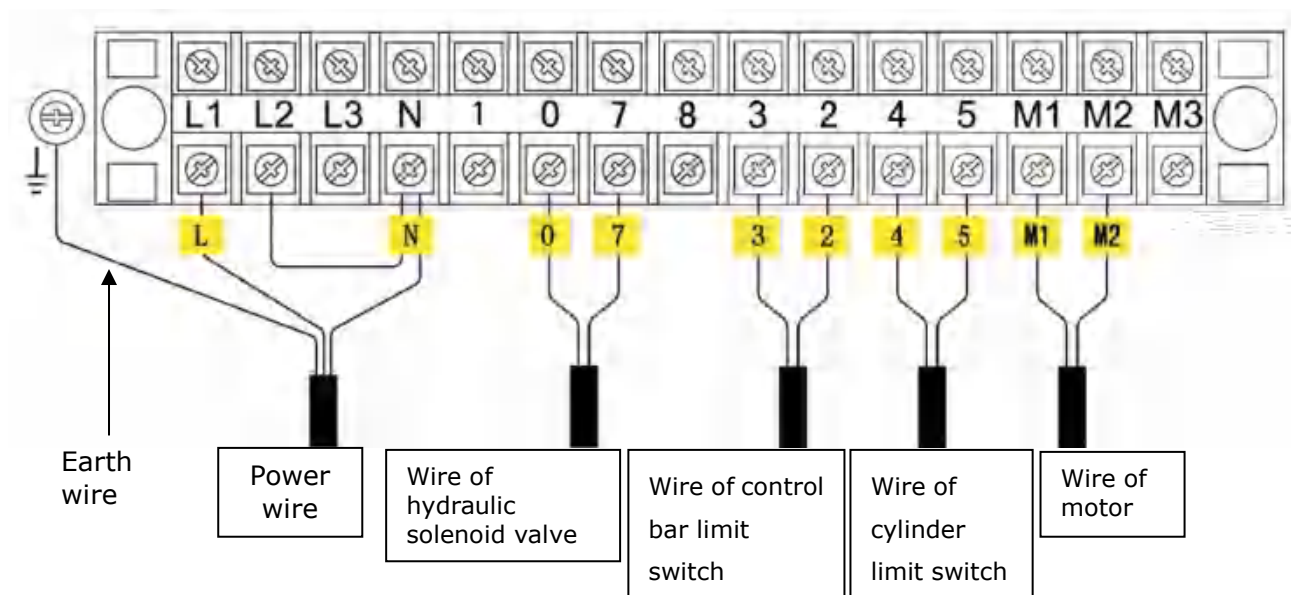

Fig. 41
3.1 Wire Connection diagram in the control box (See Fig.41).